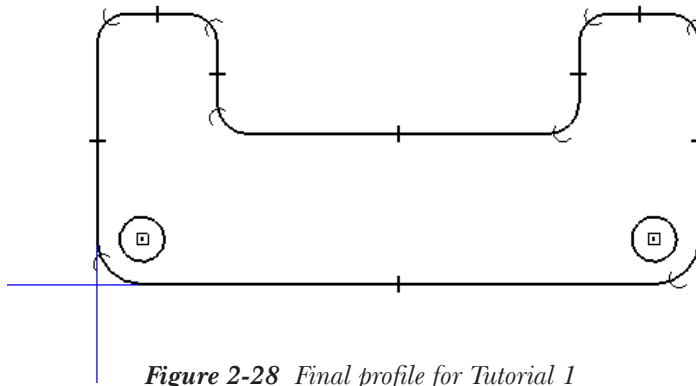

Figure 2-28 Final profile for Tutorial 1
7. Move the cursor over the center point of the bottom right fillet and click when the concentric relationship handle is displayed. The final profile for Tutorial 1 is shown in Figure 2-28.